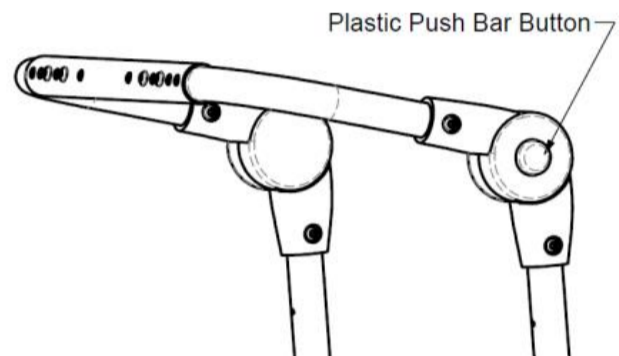

Figure 14.23: Adjustable push bar handle
1. To adjust the push bar angle, simultaneously press both plastic push bar buttons located on the top of both backrest posts (see Figure 14.23).